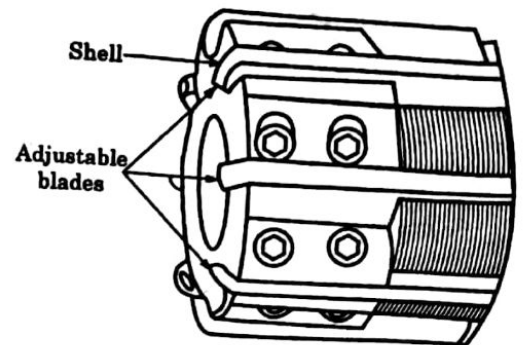

Fig. 2.41 : Shell Type Adjustable Reamer
5. Adjustable Reamers : These reamers have cutting edges in the form of blades which are locked in a body. These are available in both straight shank and taper shank types. The blades can be adjusted over a considerable large range than in the case of expansion reamers. Its blades can be easily sharpened and adjusted and have longer life. Both, high speed steel and carbides blades are used. Fig. 2.41 shows a shell type adjustable reamer.